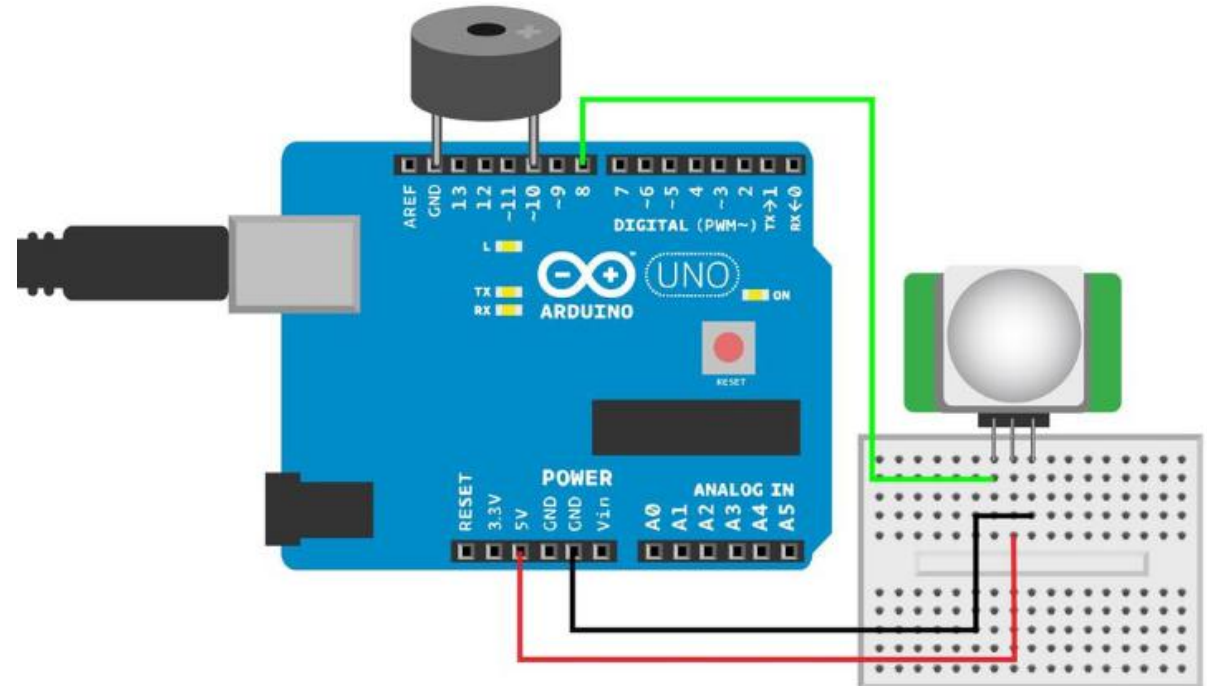

Figure 6-18. Parallax PIR sensor Rev A circuit for Arduino with LED and speaker
- You can try cheating your PIR sensor, but as you will soon notice it's not quite as easy as in action films. We'll use the same code as before but add a piezo beeper. This way, it's easier to know when movement is detected. Connect the piezo according to the circuit diagram in Figure 6-18 and upload the code in Example 6-11.